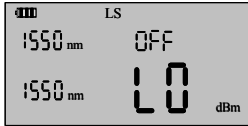
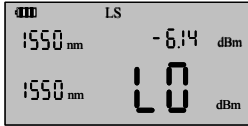

Figure 12 Light Source Mode
Figure 13 Light Source Display
Press **Func** to change between light source (LS) and power meter (PM) mode. The unit operating in light source mode is shown in Figure 12.
The unit operating in light source mode is shown in Figure 12. “**OFF**” indicates that the light source is off. If the light source is on, a power value or modulation frequency will be displayed in this field. Press the **Ls On** key to power the light source on, as shown in Figure 13. Even if a compatible fiber (5LT35, 5LT35C:10/125 μm SM fiber, 5LT83: 62.5/125 μm MM fiber) is used, the output power value measured by the power meter may differ from the displayed light source output power.